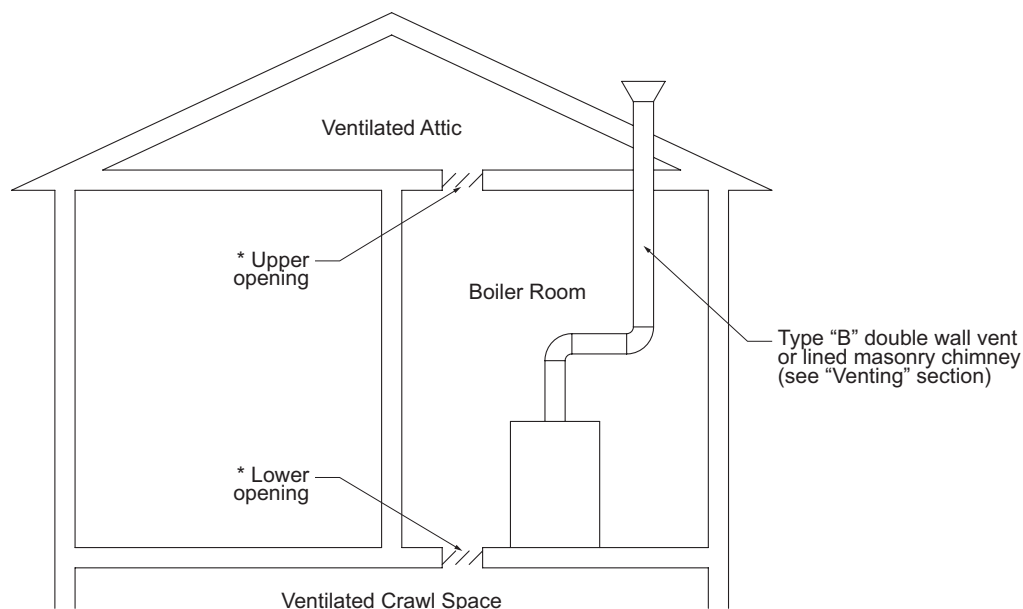
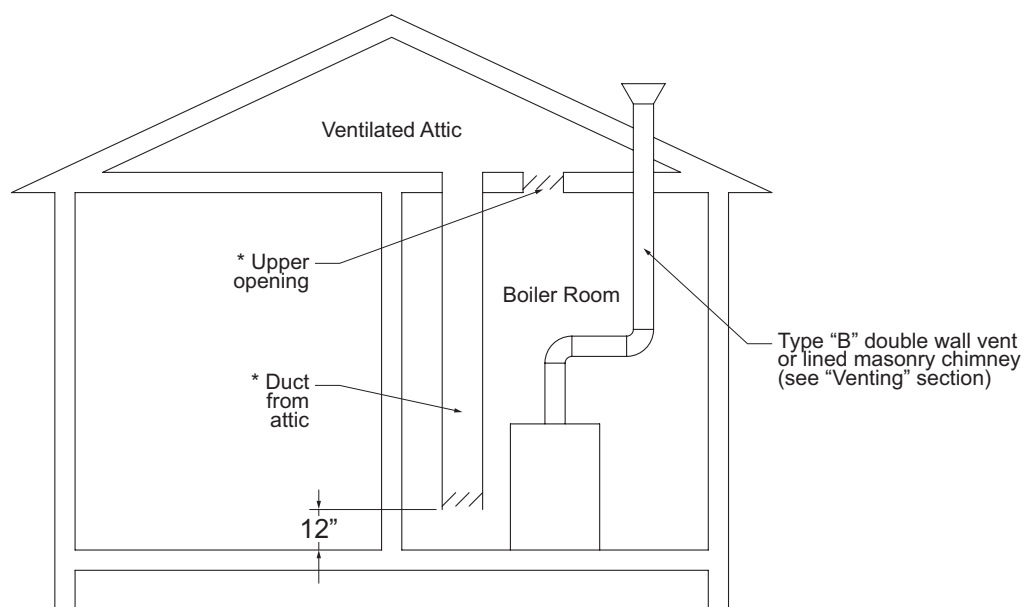
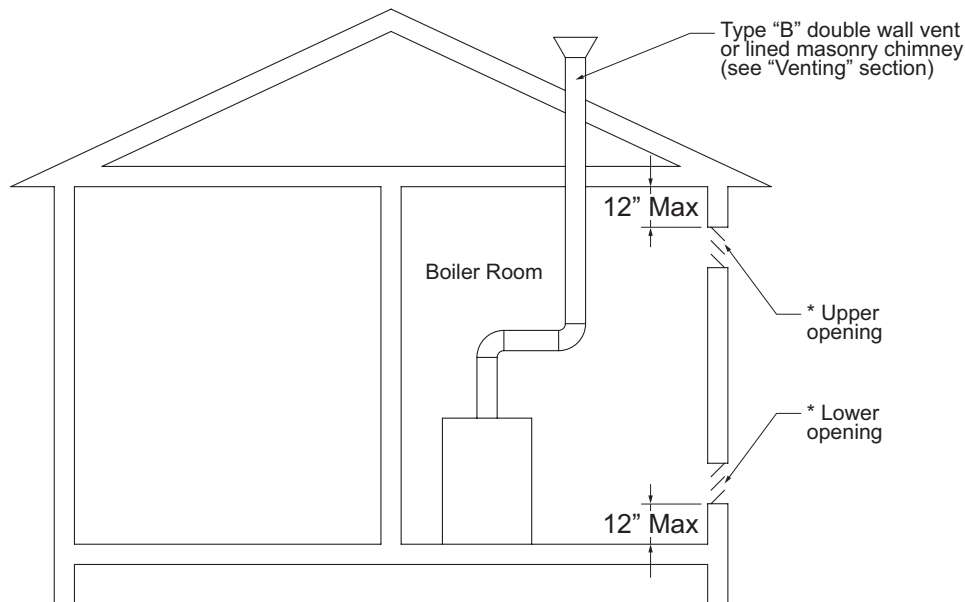

Figure 5.2 (All air from outdoors, ventilated crawl space and attic)
Figure 5.3 (All air from outdoors, via ventilated attic)
Figure 5.4 (Outdoor combustion air method: using openings into boiler room)
- Vertical ducts or openings directly outdoors (Figure 5.2, Figure 5.3, and Figure 5.4) - Each opening must have a free cross sectional area of 1 square inch per 4000 BTU/hr of the total input of all gas-fired appliances in the boiler room. Minimum opening size is 3 inches.